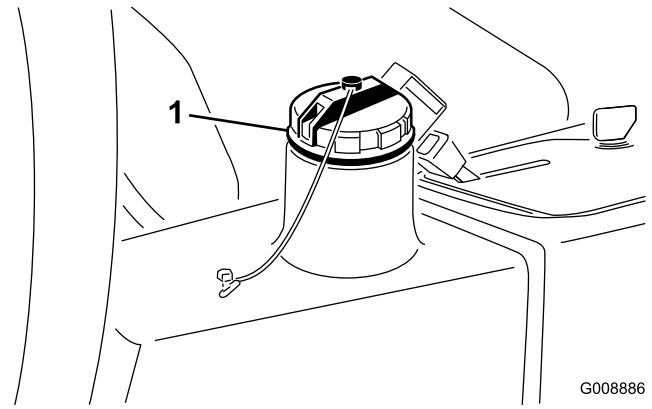

Figure 74
4. Fill the reservoir (Figure 74) with approximately 13.2 liters (3.5 U.S. gallons) of hydraulic fluid; refer to Checking the Hydraulic System.